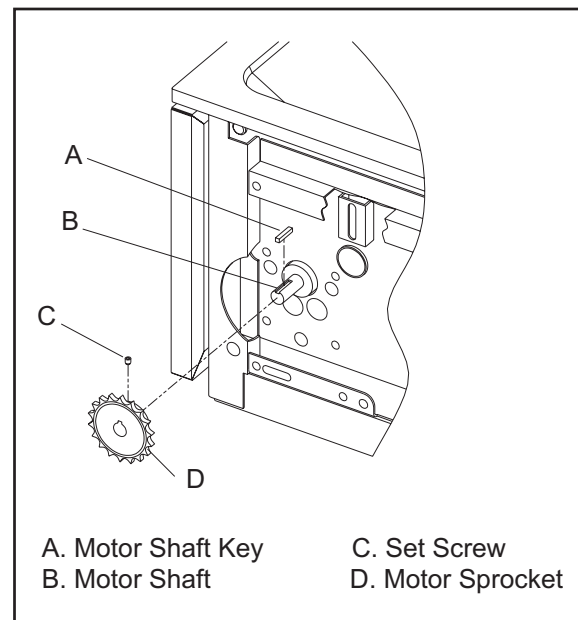

Figure 24. Motor Sprocket Assembly
1. Loosen set screw. See Figure 24.